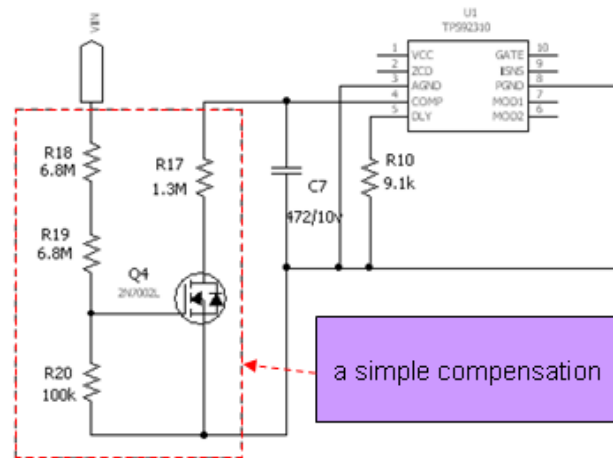
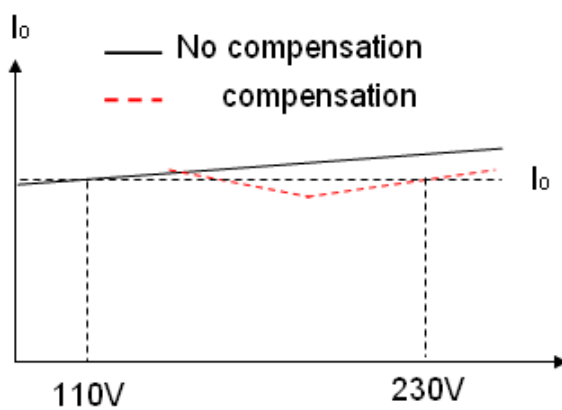

Figure 11. External Line Regulation Compensation Circuit
Figure 12. Line Regulation Compensation Curve
2. Add an input voltage detection circuit (shown in Figure 11) to reduce on-time at high line; it can reach the desired high current precision by adjusting R17 at 110 Vac and 230 Vac line. R19, R19, and R20 decide the inflection point of LED current. Figure 12 shows a line regulation ratio curve with external compensation.